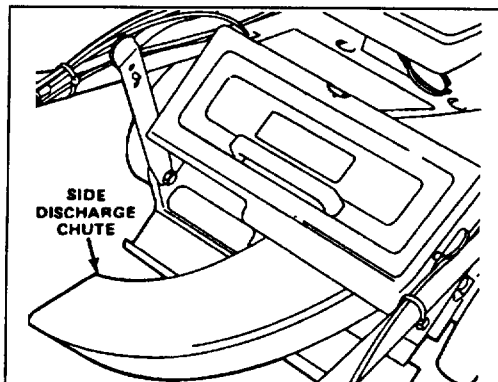

Figure 32
1. Side Discharge Kit, Model No. 59112—Installs in seconds. Rear mounted in place of the grass bag. Disperses clippings while trimming on both sides (Fig. 32).